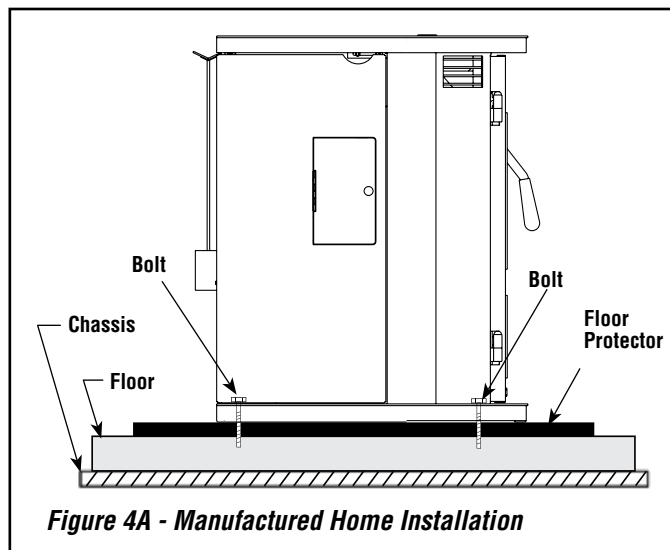

Figure 4A - Manufactured Home Installation
- The stove must be permanently bolted to the floor using two or three 1/4" or 5/16" Ø x 5" lag screws as shown in **Figures 4A, 4B, 5A and 5B**.